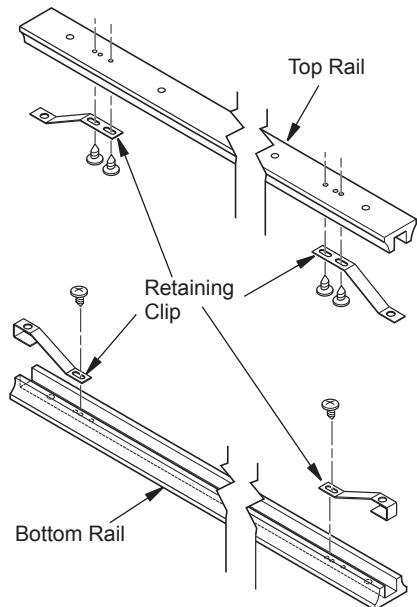

Figure 23 - Mounting Door Retaining Clips
6. Secure retaining clips to top and bottom rails (see Figure 23).